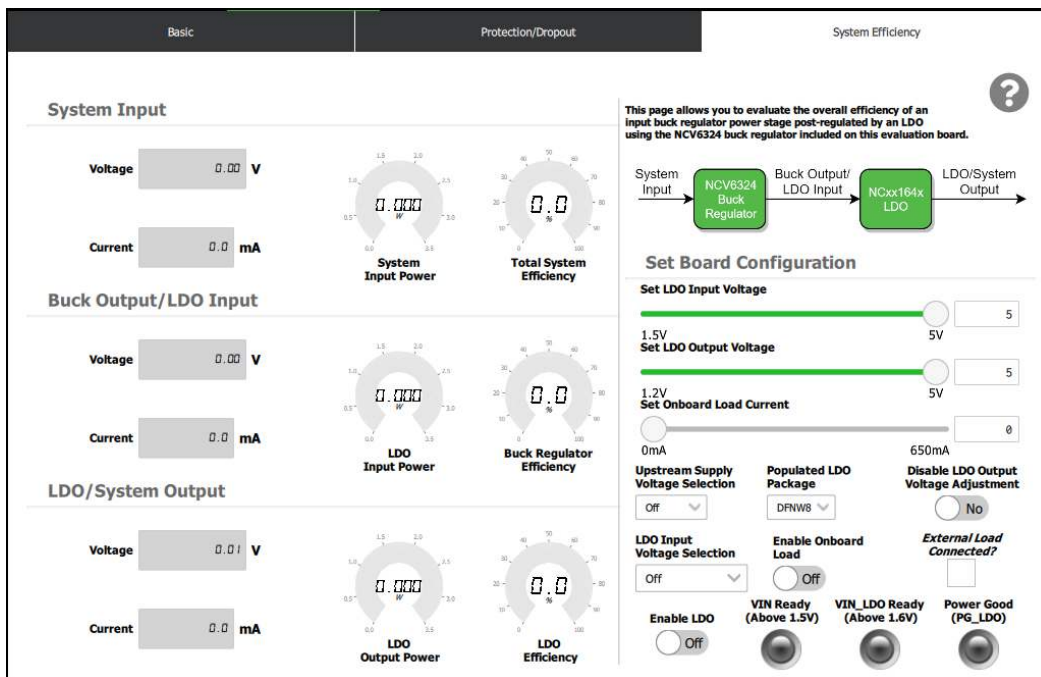

Figure 5: "System Efficiency" UI view
- The “System Efficiency” view (shown in Figure 5) can be used to evaluate the total efficiency of a buck regulator/LDO DC-DC step-down power distribution topology using the NCV6324 synchronous buck regulator included on the EVB.